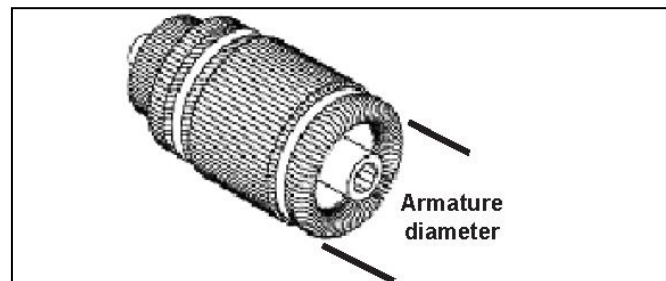

Figure 10-8
1. Measure the diameter of the armature (Figure 10-8).